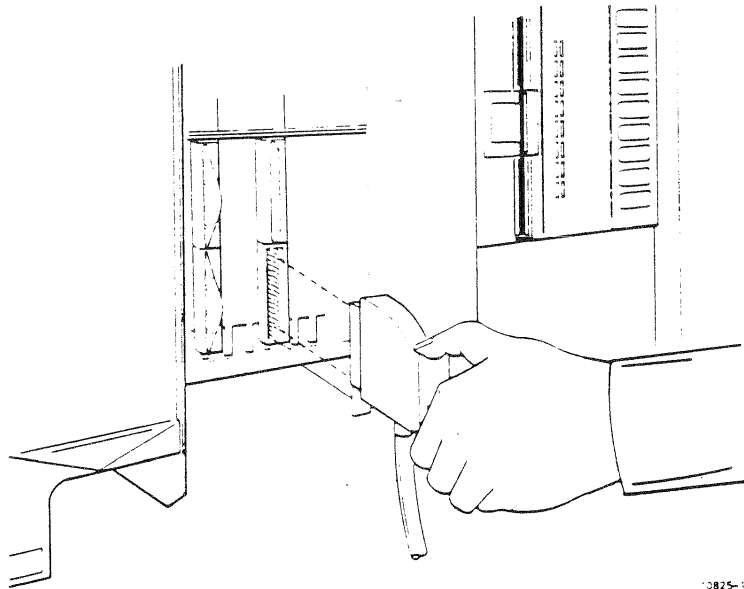

Figure C3
1. Match cable connector P1 to the line module pins (Figure C3).